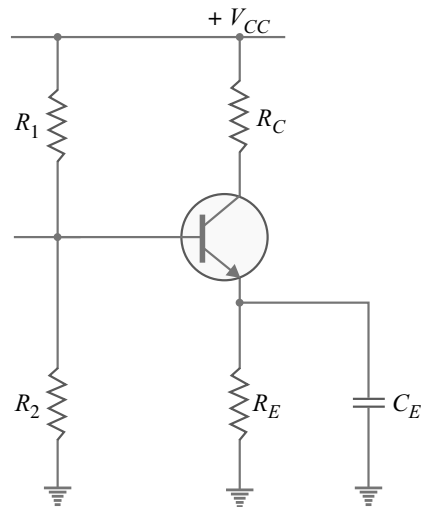

Fig. 7.39
**Example 7.34.** Fig. 7.39 shows the potential divider method of biasing. What will happen if